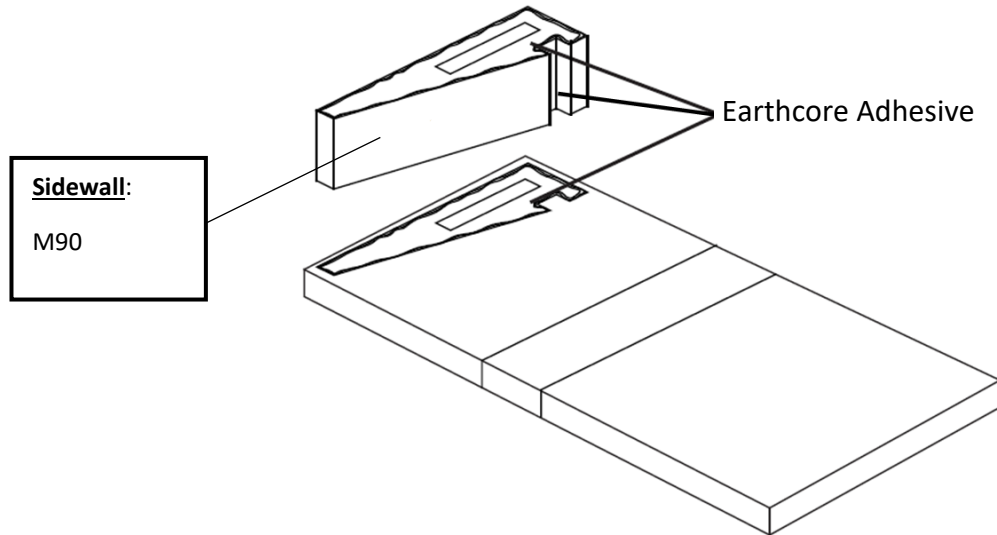

FIGURE 12
- 2) Set the first course of the firebox side walls and back walls into place (**Figure 12**).